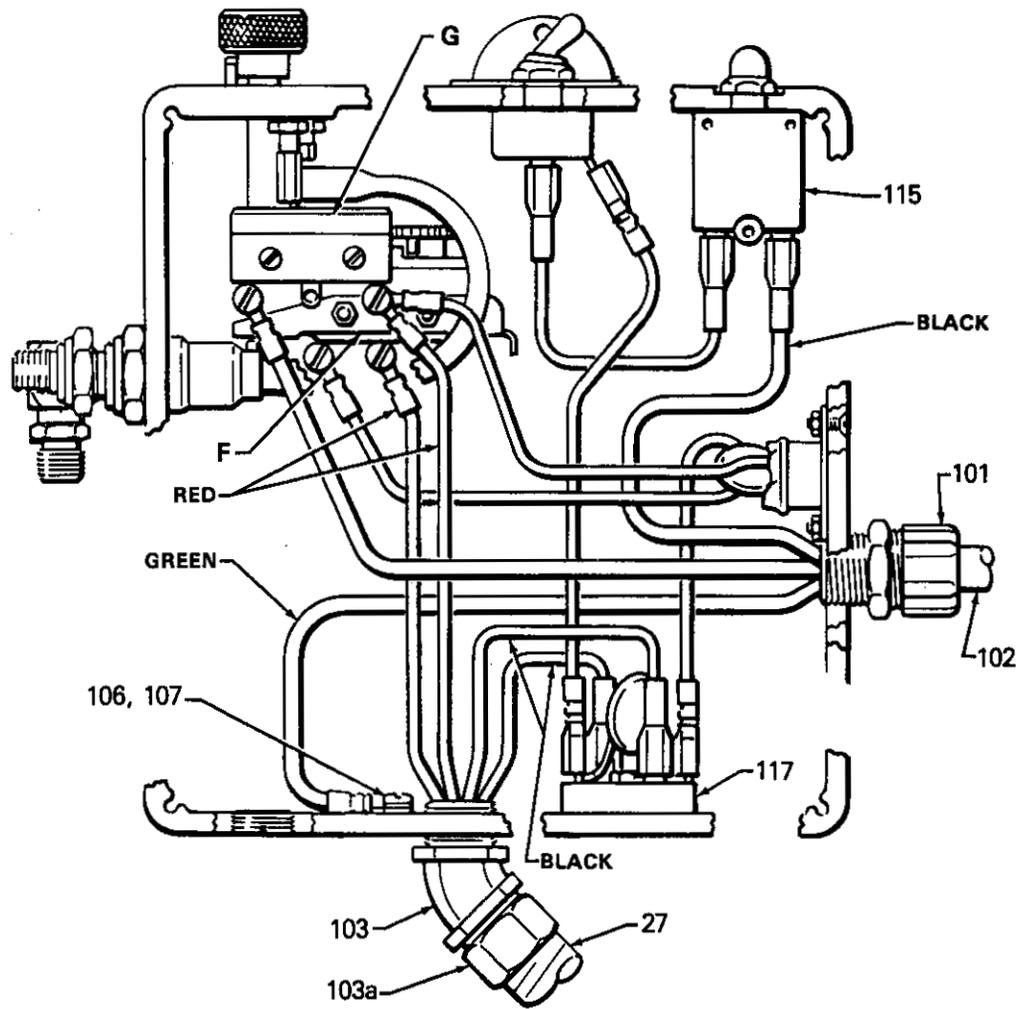

Fig 18
Disconnect the three power cord leads from: the grounded screw (106), the overpressure switch (G) and the circuit breaker (115). Disconnect the four motor leads: two black leads from the bridge (117), one red lead from the pressure switch (F) and one red lead from the overpressure switch (G). See Fig 18.